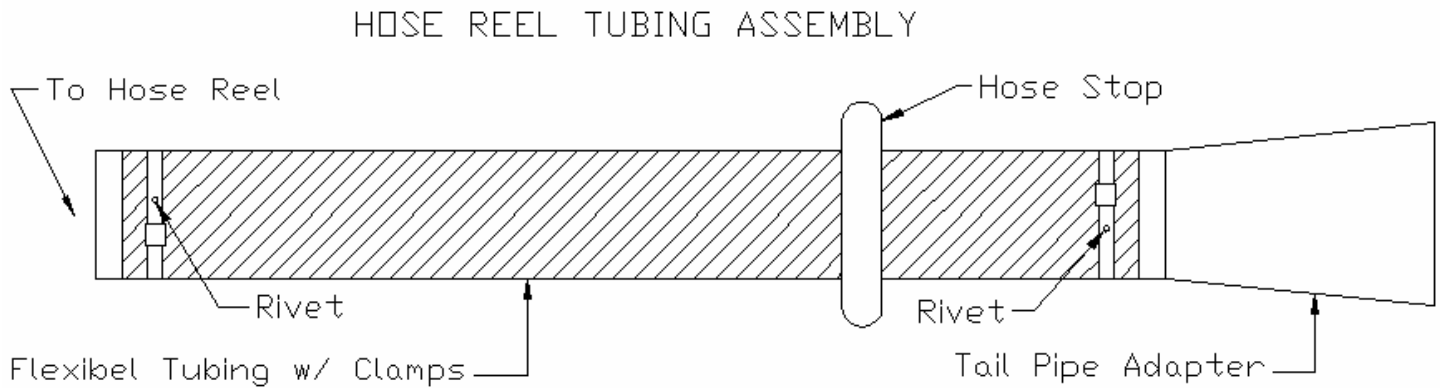

FIG 3
- Assemble the tubing assembly as shown in **FIG 3**